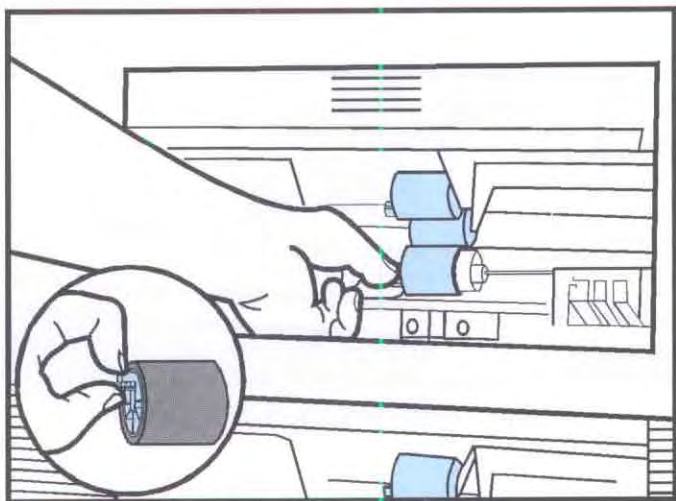

Figure 4-6. Removing the Pickup and Separation Rollers
The three upper and three lower Pickup and Separation Rollers are located inside the Paper Input Unit (see Figure 4-6). The replacement parts for the Pickup and Separation Rollers are identical.
3. Remove each roller by pinching the light blue plastic retaining clip at the end of the roller and sliding it off its shaft (see Figure 4-6). The roller may have to be rotated in order to access the clip.